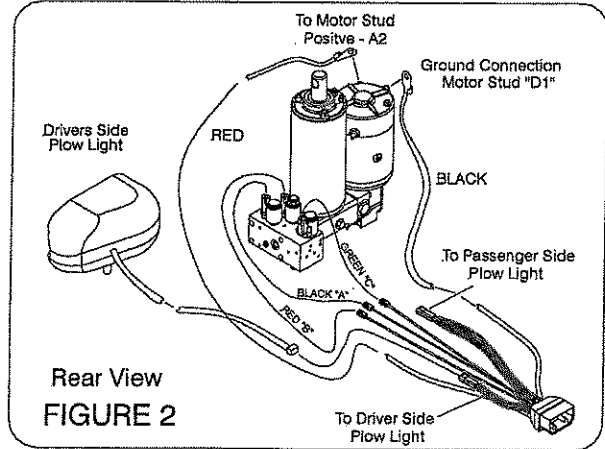

Figure 2
- A. Remove shipping plug from filler hole and install Relief Valve Kit (11). Tighten to 100-125 in. lbs.
- B. Install the Female socket (6) of the Harness Plug assembly. Attach power cables to the Hydraulic Lift Unit (1). Attach the red (+) cable to the motor stud marked (A2). Attach the black (-) cable to the motor stud marked (D1). Connect the red, black and green wires from female socket (6) and connect to solenoids on the Power Angling Block. See Figure 2.
Connect both male ends from the snow plow light to the female ends on the Female Socket (6). As per Figure 2.